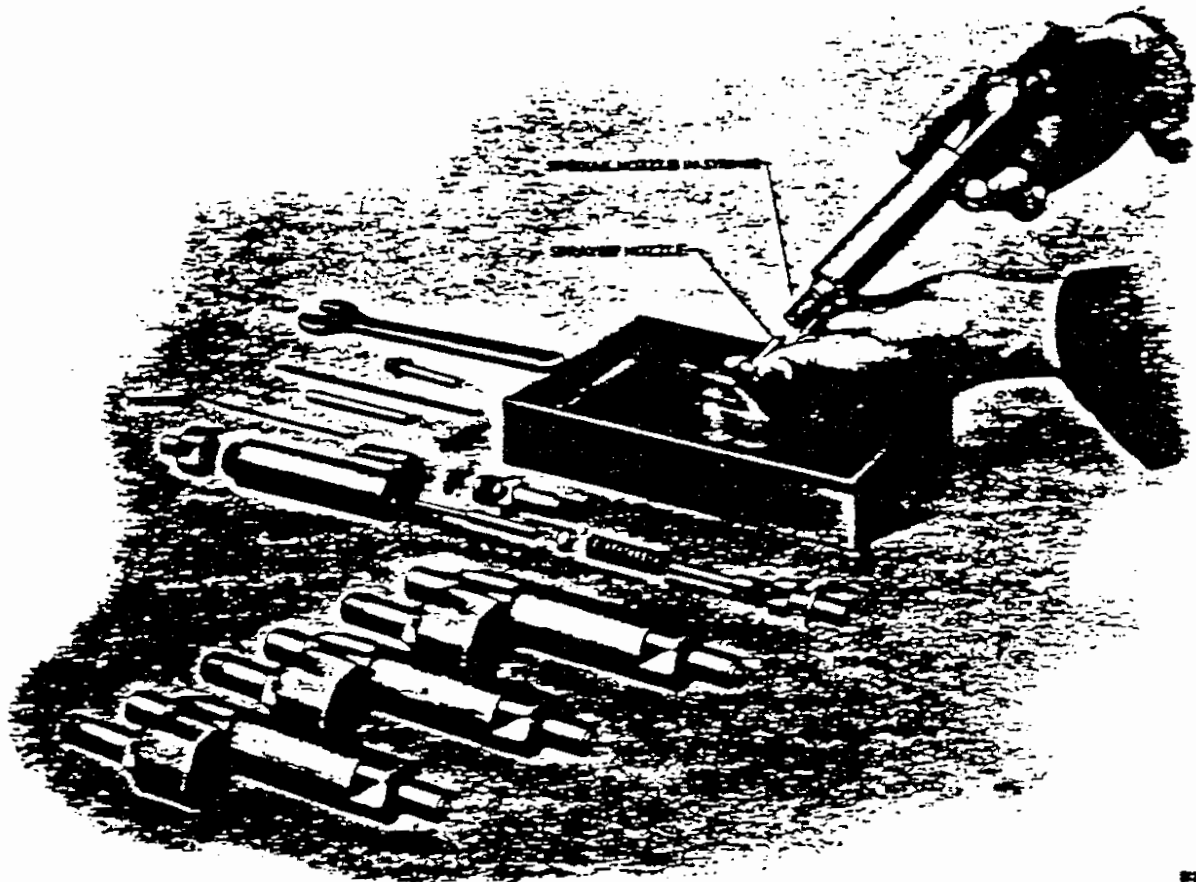

Fig. 12
Take the utility syringe supplied with the engine and change the ordinary nozzle in favour of the special one made to fit the sprayer nozzle. (This special nozzle is also supplied with the engine). Draw into the syringe some clean paraffin and insert the sprayer nozzle into the special syringe nozzle, pressing it in place by the fingers. A pressure now applied to the plunger of the syringe will force a flush of paraffin through the jet-holes and the central bore in a direction opposite to that of the fuel when the sprayer is in work. See Fig. 12.
90.3. **Position of Accelerator Lever (Fig. 12).**—In order that the remote control may be as light as possible, it is necessary to make the coupling rod, cable, etc., of such a length that the rod and the lever contain an angle of 90° when the control is in the position for maximum speed. This clearly gives the greatest leverage when the greatest effort is required. Otherwise stated, the length of coupling rod, cable, etc., should be such that it is square to the lever with the control in the maximum speed position, because then the leverage is greatest when it is most needed.